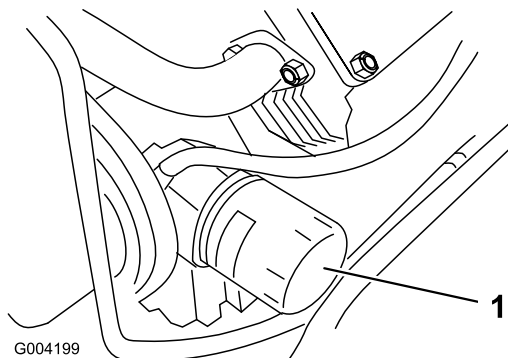

Figure 35
3. Remove the old filter (Figure 35) and wipe the surface of the filter adapter gasket.